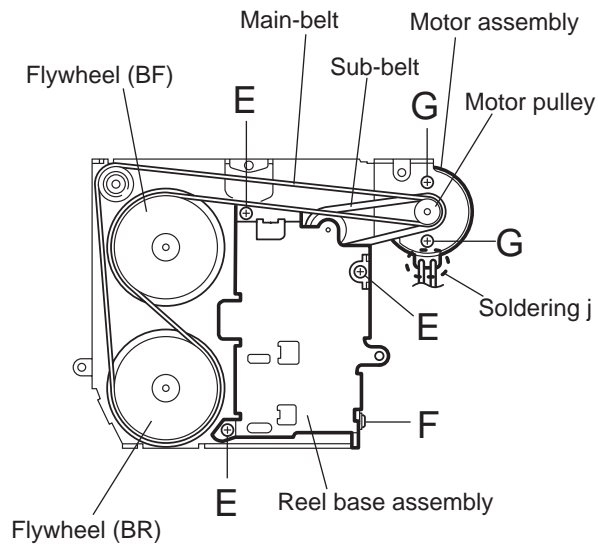

Fig.5
3.2.10 Removing the reel base assembly (See Fig.5 and 6)